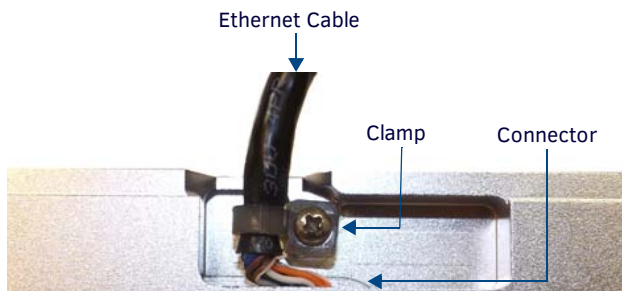

FIG. 46 Bottom of the MXT-701/1001
In tabletop installations where concealing the Ethernet cable is desired, a hole at least 1.00" (2.54 cm) in diameter is required in the surface to allow passage of the female RJ45 connector (FIG. 46). If using a smaller hole is unavoidable, you will need to disconnect the Ethernet cable (**ECA5968-05**) from the device, to feed the male end of the cable through.
2. Remove the clamp holding the Ethernet cable (FIG. 46).